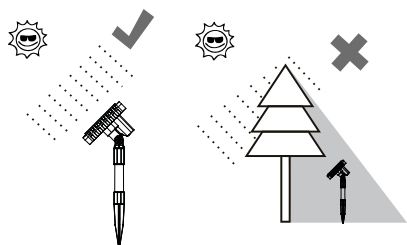
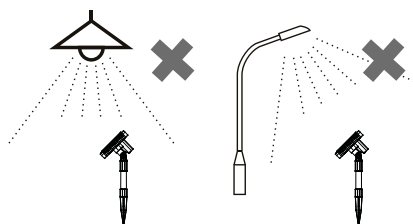

Figure 4
Figure 5
- 4) The solar panel is used as a photosensor to automatically start the system operation once a day in the morning. To avoid misoperation, the solar panel should not be exposed to any other light source except sun light (referring to **Figure 4** and **Figure 5**).